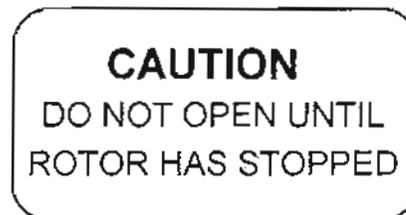

Figure 1-9. Spinning rotor caution decal.
(6) A caution decal (located on the cover) providing rotor information is depicted in figure 1-9.